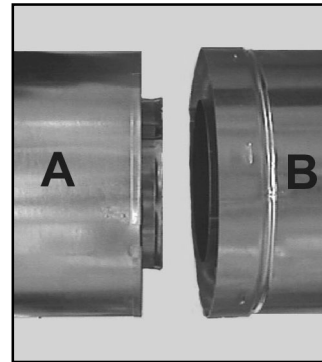

Figure 20
- 2) Insert the outer flue of section "A" into the outer flue of section "B". See Figure 20.